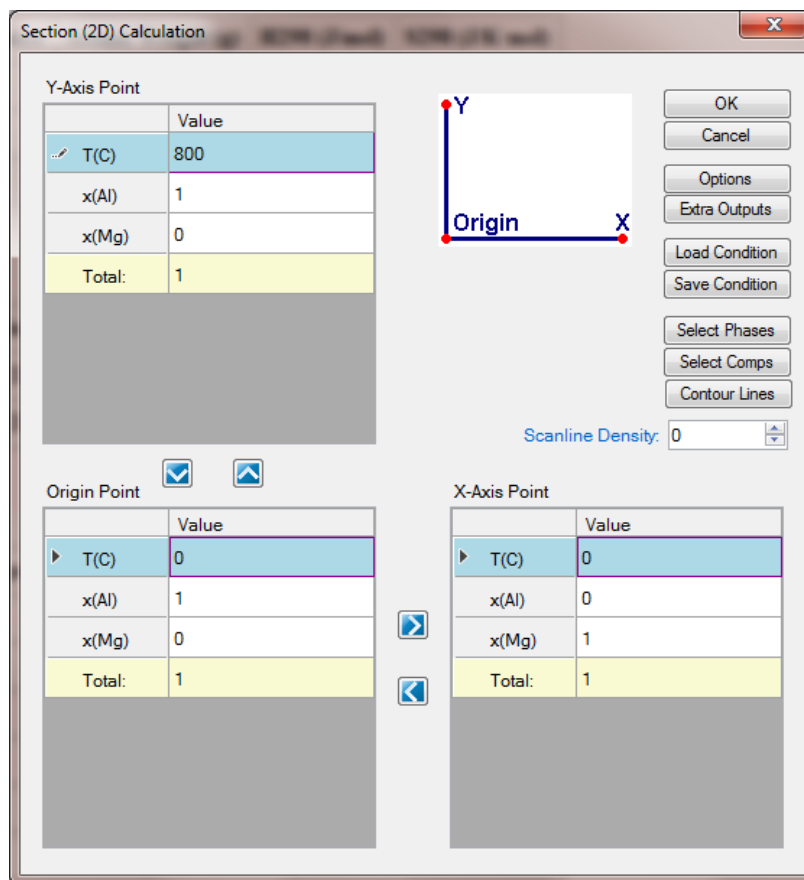

Figure 1.1.1: 2D calculation with composition from pure Al to pure Mg and temperature from 0°C to 800°C
- Set Calculation Condition as shown in Figure 1.1.1;